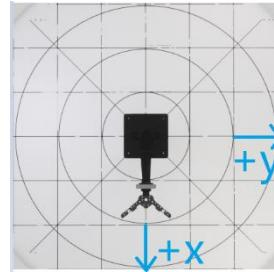

Figure 3: Orientation of the QArm Workspace
- View the manipulator from the top in a way that the manipulator's end-effector points south in the home position, as shown in figure 3. The **up** and **down** arrow keys should drive the end-effector correspondingly in the North and South directions, which in turn correspond to a positive or negative x -direction. Add a gain block to the two channels labelled **up** and **down**. Set the value of these gains to +1 or -1 depending on the correct directions.